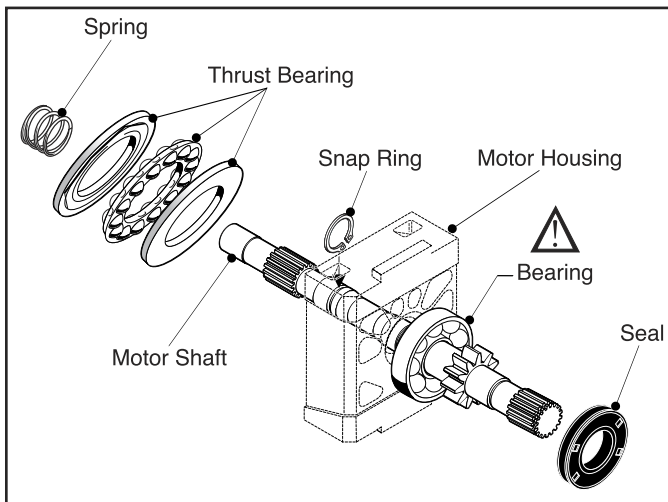

Fig. 27, Motor Shaft and Housing
6. Remove the Spring and Snap Ring. Next, remove the Thrust Bearing Set seated in the Motor Housing. (Fig. 27)
8. Remove the Snap Ring and Seal. Discard the Seal and replace it with a new Seal during reassembly. (Fig. 27)